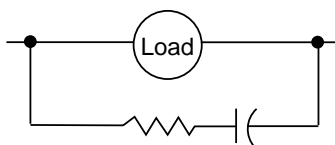

Figure 1: R.C. Snubber
R.C. snubbers, suitable for AC only, limit overvoltage to roughly three-times the nominal voltage and the oscillating frequency to 400 Hz maximum, and increase the dropout time of the load device from 1.2 to 2 times the normal dropout time. (Refer to Figure 1.)